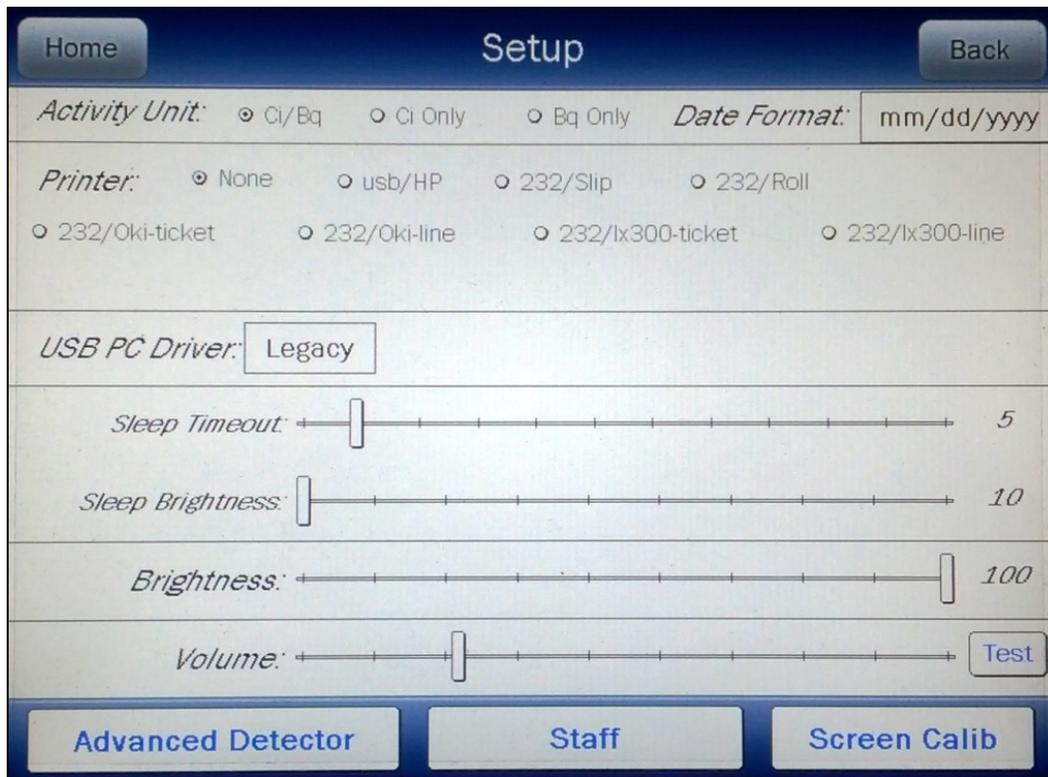

Figure 5-3 Setup Screen
To access the Well Counter setup, touch the **SETUP** button located in the lower right portion of Figure 5-2 Well Counter Main Screen. Figure 5-3 Setup Screen will appear.
- touch the **BACK** button – Figure 5-3 Setup Screen will appear or